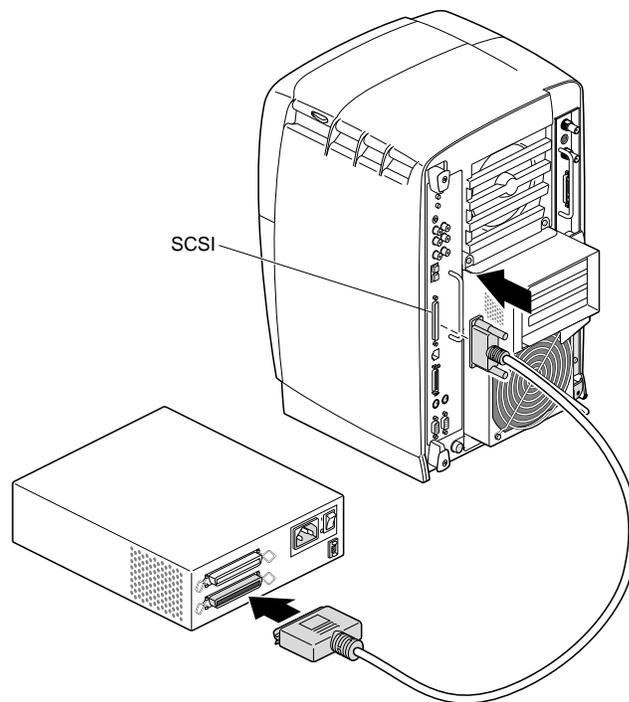

Figure 6-6 Connecting an External SCSI Device to the Octane2 Workstation
1. Connect a single device, or the first of several devices, as shown in Figure 6-6.